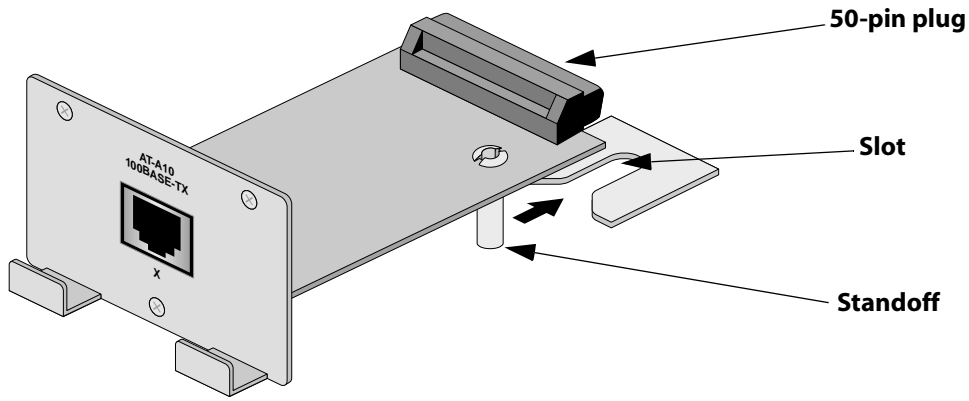

Figure 2-3 Guiding the MDA's Standoff Into Its Slot
The standoff on the MDA guides it correctly into position so that the MDA's 50-pin plug aligns with the 50-pin receptacle on the main board. Refer to Figure 2-3 for the location of the standoff and the 50-pin connector.
4. Slide the MDA into its empty slot making sure that the standoff is aligned properly. See Figure 2-3.